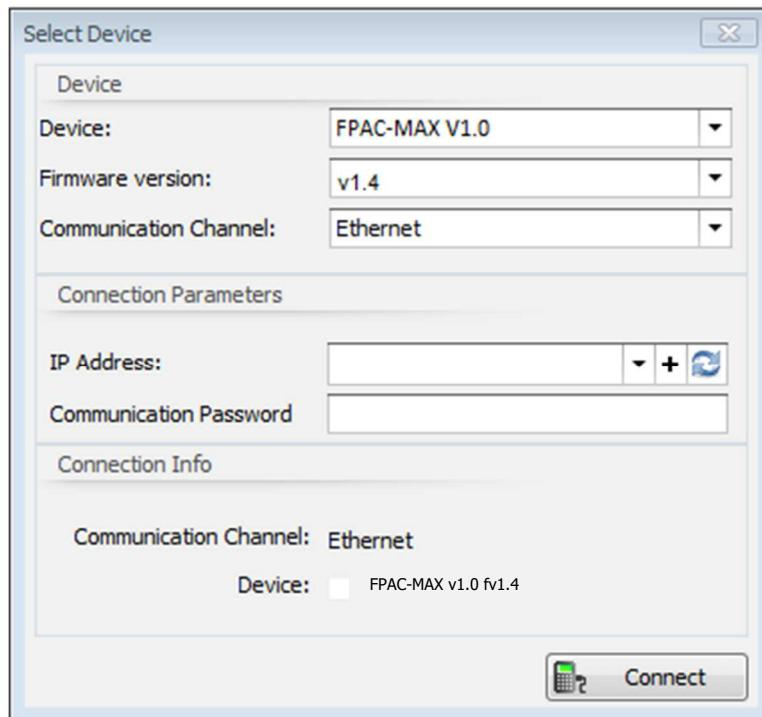

Fig. 6 Device selection window in AC-MAX HW software
4. In the open window (fig.6) select the *FPAC-MAX v1.0* Fingerprint READER device, firmware *1.4* and Ethernet communication *channel*.